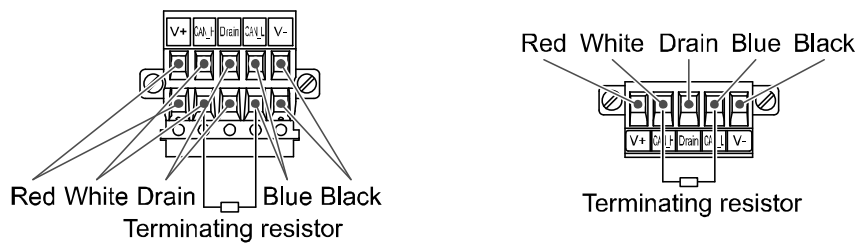

Figure 2
(2) A bus termination is required at both ends of DeviceNet™ bus segment as shown in the Figure 2. The specification of the terminating resistor is 121 $\Omega \pm 1\%$, 1/4 W.